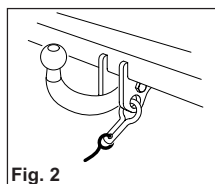

Fig. 2
- Attach the clip directly to the designated point (Fig. 2). This alternative must be specifically permitted by the trailer manufacturer since the clip may not be sufficiently strong for use in this way.